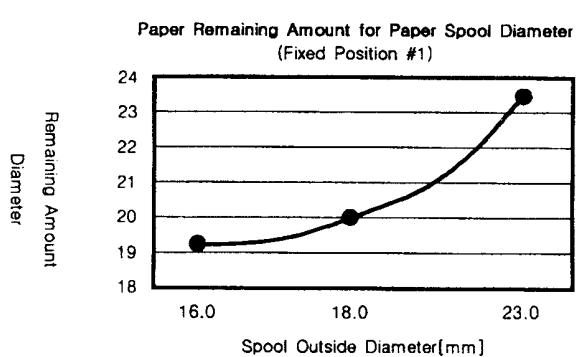

Figure 5-2 Paper Remaining Amount for Paper Spool Diameter
The Near End(N.E) Sensor Lever is supported by the N.E Sensor Holder so it can move. The spring force of the Micro switch fixed by a screw to the N.E sensor holder presses the N.E sensor lever in the direction of an arrow(1) in Figure5-2. The micro switch is linked to the switch circuit board assembly by the N.E sensor lead wire.